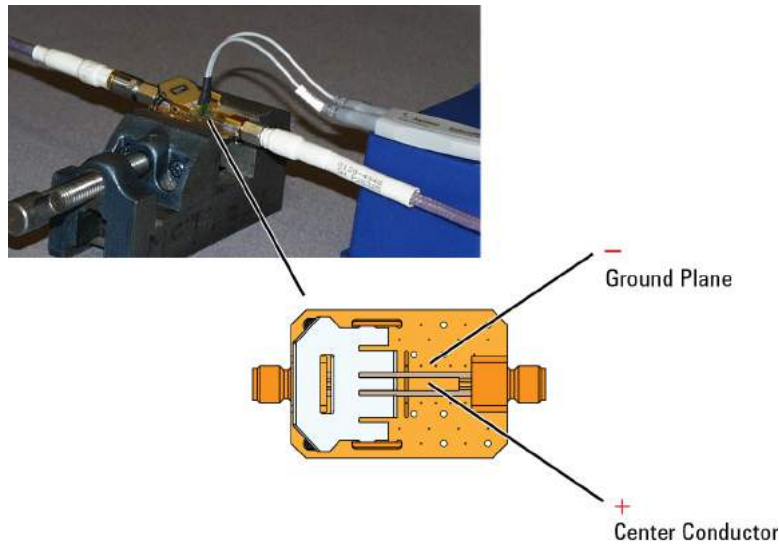

Figure 209 Probing Locations on PV Fixture
- 31 Position the probe conveniently to make quality connections on the PV/DS board as shown in **Figure 209**.